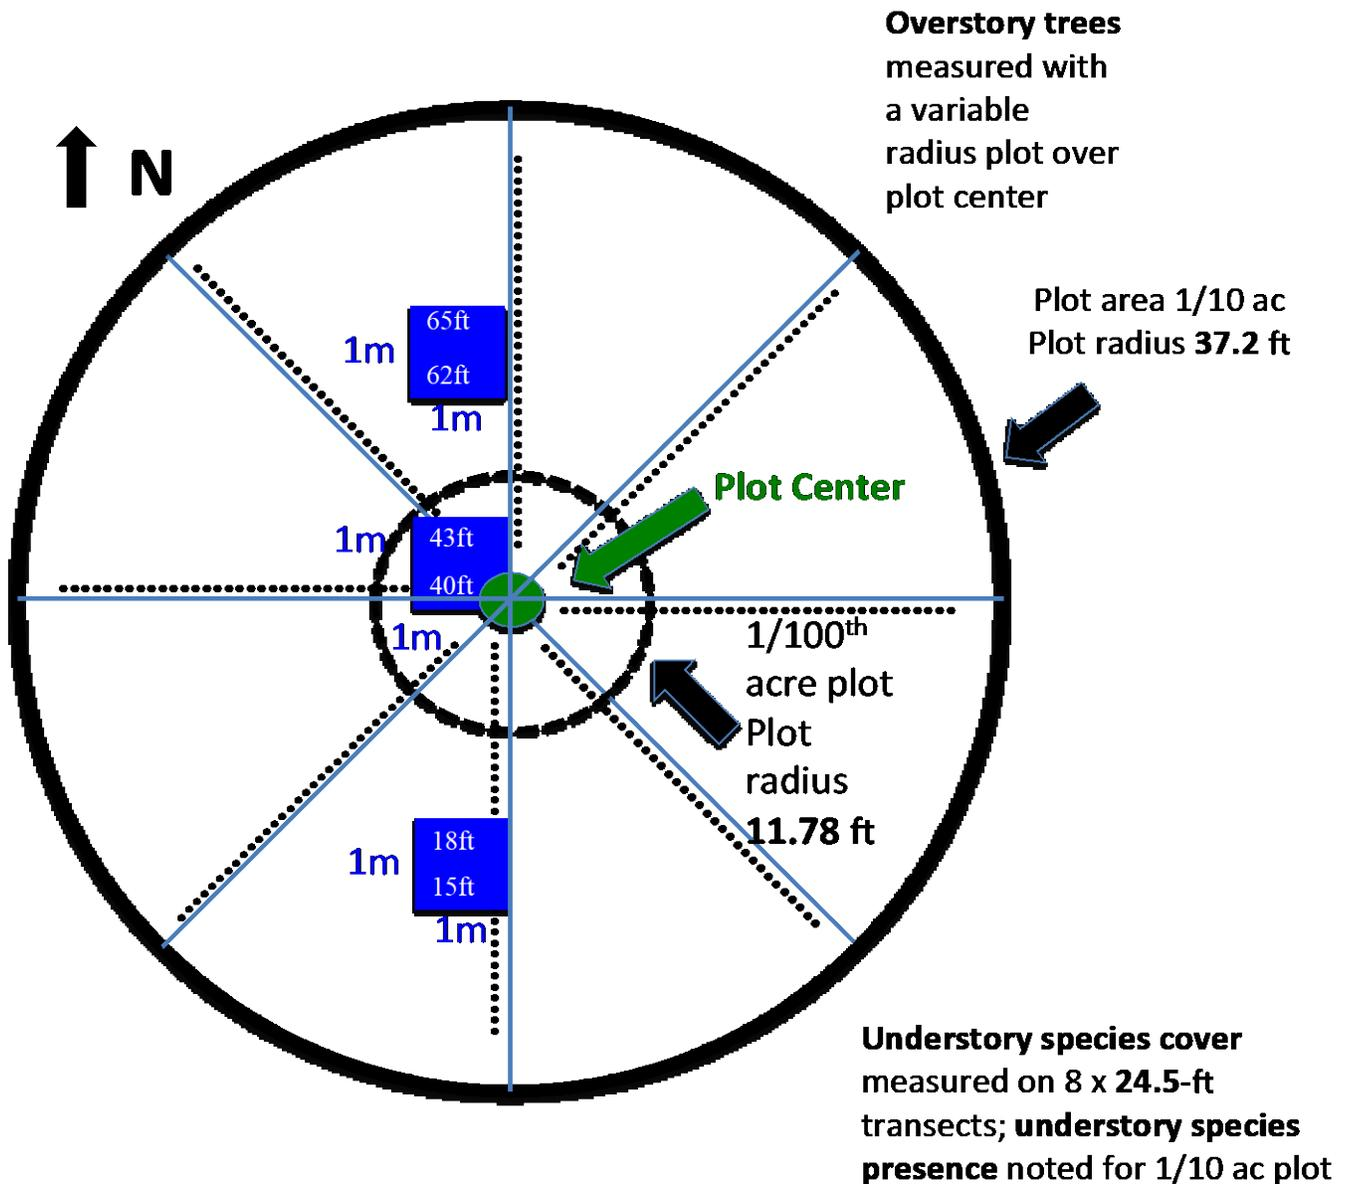

Figure 1. Diagram of the CFRI Forest Restoration and Fire Mitigation Effectiveness Assessment sample plot.
3. Each of the three 1m² Sample frames are placed to the left (west) of the north-south transect as depicted in Figure 1. The frames should be located adjacent to the 15 – 18 foot mark on the tape (25 feet south of the center), at the plot center (40 – 43 foot marks), and adjacent to the 62 – 65 foot marks (22 feet north or center, refer to Figure 1). To avoid trampling vegetation and woody fuels, walk on the right side of the transect as much as possible.